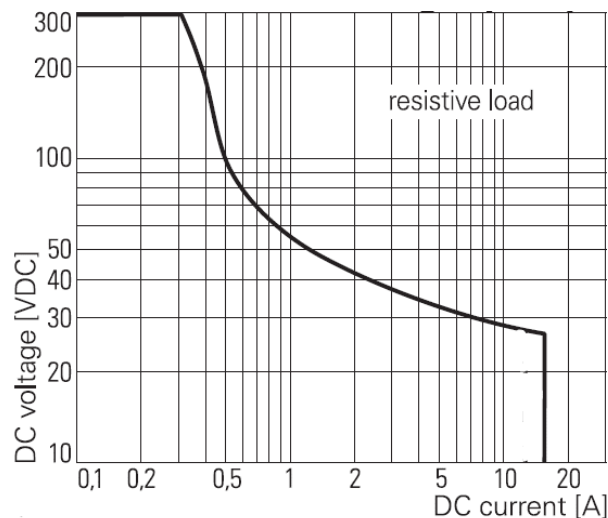

Figure 3-9: Max. DC load breaking capacity
* For DC Voltage and Current, refer Figure 3-9.